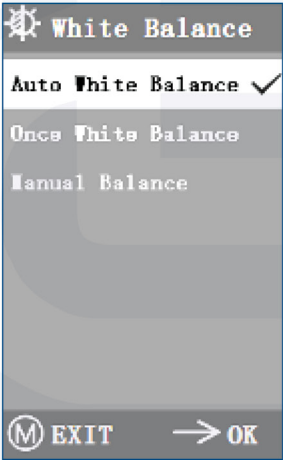

Figure 5-1
- After entering the white balance menu, the default option is "Auto White Balance", as shown in Figure 5-1